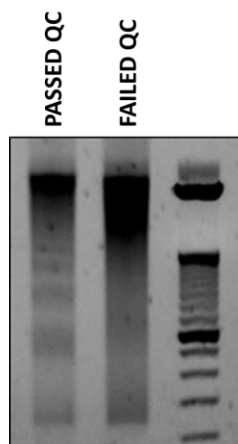

Figure 3. The sample on the left passed the QC checkpoint, while the sample on the right shows DNA smearing on the gel, likely caused by sample degradation.
3. QC checkpoint: high-quality ATAC-Seq libraries should display clear nucleosome phasing, as shown in Figure 3 (sample on the left).